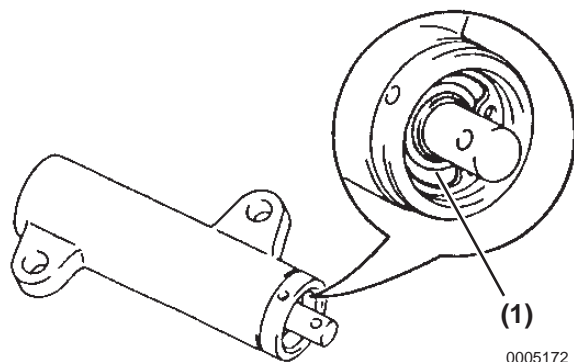

Figure 5-173
1. Visually check the tensioner seal (**Figure 5-173, (1)**) for oil leakage.